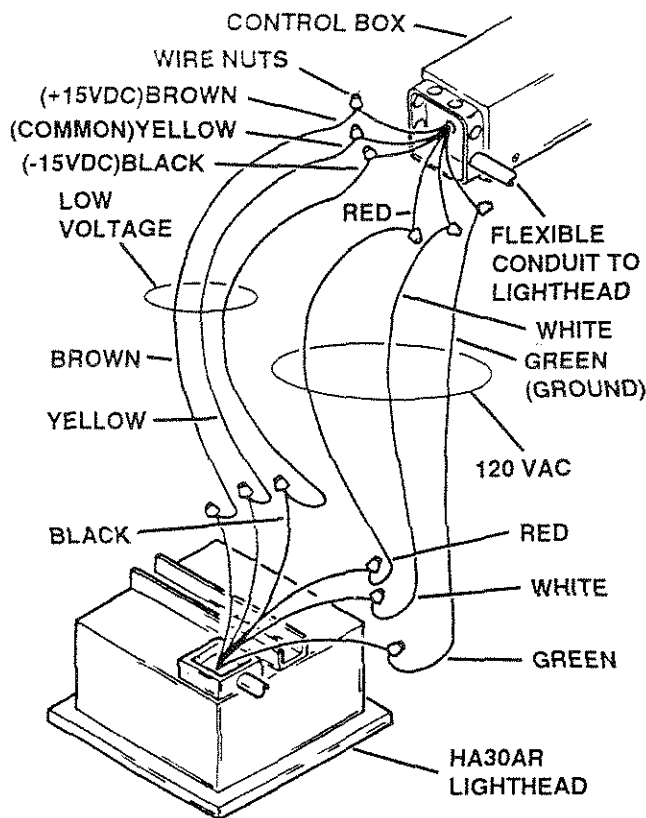

Figure 3. Lighthouse to Control Box Wiring
6. Connect the six (6) wires from the lighthead housing junction box (through conduit) to control box junction box. Observe wire colors carefully and make all wire connections using wire nuts. See figure 3.